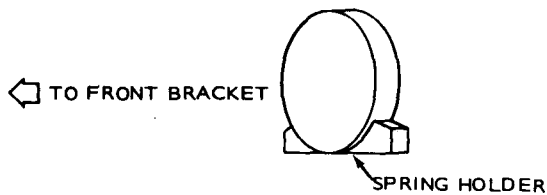

FIGURE 58
- Place the lever spring and the spring holder into the front bracket with the direction shown in Figure 58.